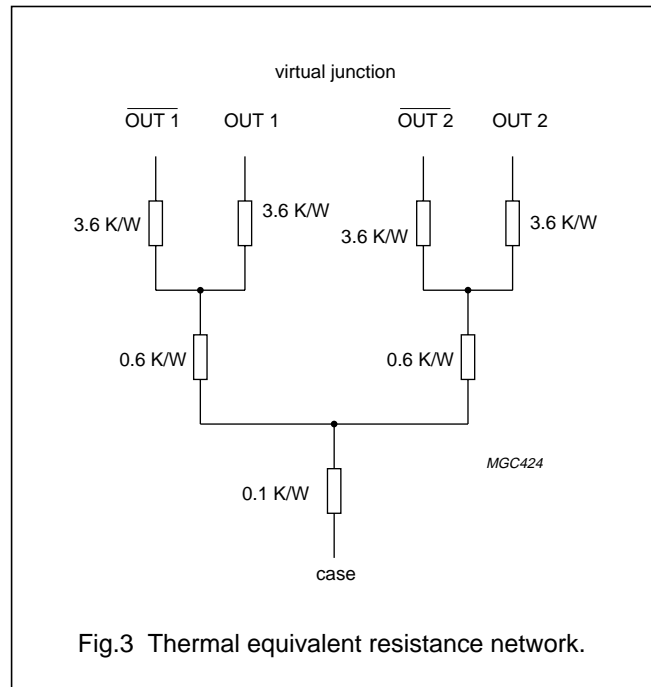

Fig.3 Thermal equivalent resistance network.
1. The value of R_{th(c-h)} depends on the application (see Fig.3).